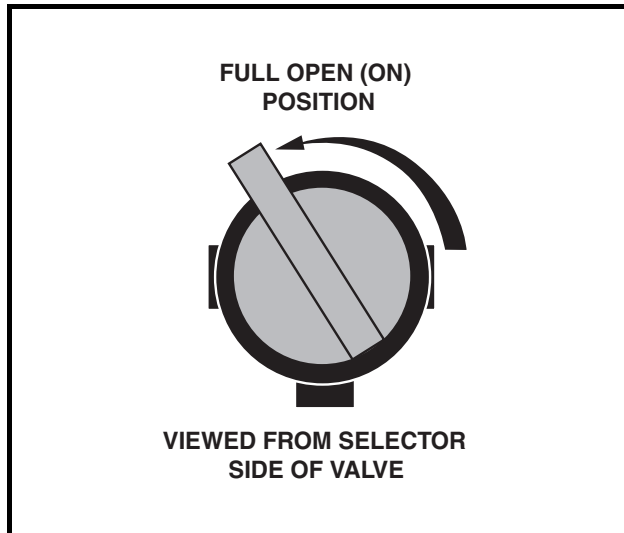
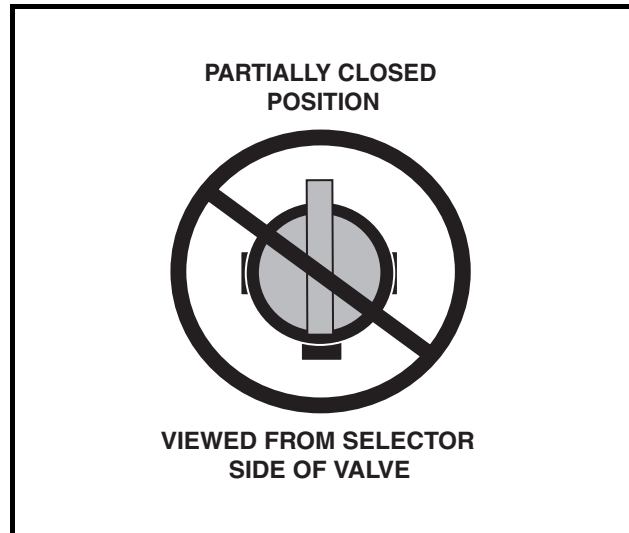

Figure 13 Fuel Shut-off Valve – Open Position
Figure 14 Fuel Valve – Partially Closed Position
4. **Gasoline vehicles only:** Completely open the fuel shut-off valve (**Figure 13, Page 27**). Ensure the valve is fully open. A partially closed fuel shut-off valve combined with the use of the choke can result in a fouled spark plug and engine failure (**Figure 14, Page 27**).